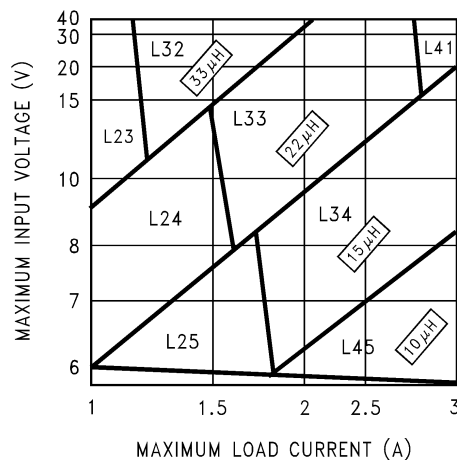
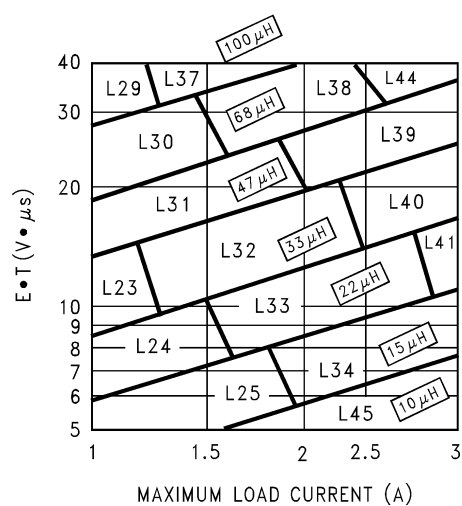

Figure 21. LM2670-3.3
Figure 24. LM2670-ADJ
Step 3: Determine the inductor required by using one of the four nomographs, Figure 21 through Figure 24. Table 1 provides a specific manufacturer and part number for the inductor.
Step 5: Determine an input capacitor from Table 8 or Table 9 for fixed output voltage applications. Use Table 3 or Table 4 to find the specific capacitor type. For adjustable output circuits select a capacitor from Table 3 or Table 4 with a sufficient working voltage (WV) rating greater than $V_{in\ max}$, and an rms current rating greater than one-half the maximum load current (2 or more capacitors in parallel may be required).
Step 3: Use the nomograph for the 3.3V device, Figure 21. The intersection of the 16V horizontal line ($V_{in \text{ max}}$) and the 2.5A vertical line ($I_{load \text{ max}}$) indicates that L33, a 22 μ H inductor, is required.
Step 3: To use the nomograph for the adjustable device, Figure 24, requires a calculation of the inductor Volt•microsecond constant ($E \cdot T$ expressed in $V \cdot \mu\text{s}$) from the following formula:
Using Figure 24, the intersection of 27V• μs horizontally and the 2A vertical line ($I_{load \text{ max}}$) indicates that L38, a 68 μH inductor, should be used.
When using the adjustable device in low voltage applications (less than 3V output), if the nomograph, Figure 24, selects an inductance of 22 μH or less, Table 12 and Table 13 do not provide an output capacitor solution. With these conditions the number of output capacitors required for stable operation becomes impractical. It is recommended to use either a 33 μH or 47 μH inductor and the output capacitors from Table 12 or Table 13.